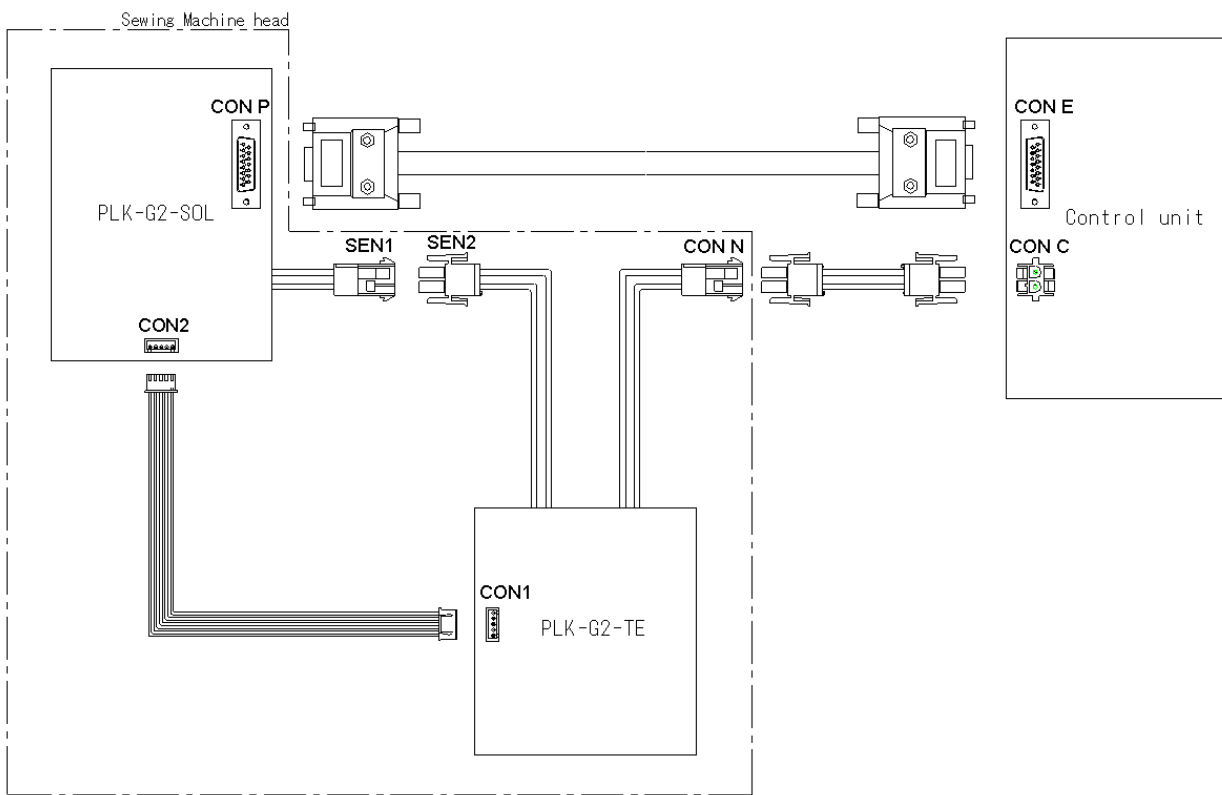

Fig.2
- (7) Attach the connector "CON N" on the I/O Expansion Unit shown in Figure 2 to the Fig.No.102 connector mounting plate.